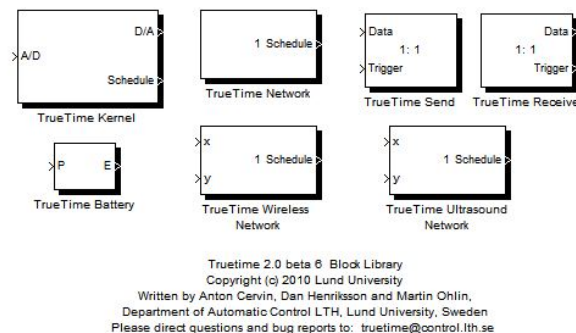

Figure 3: Truetime's Simulink blocks.
3. After executing the last line, check that you get the same window as in Figure 3.
The computer block executes user-defined task, i.e. control algorithms, and it is able to simulate the system using arbitrary scheduling policies. In Figure 3 the computer block (**TrueTime kernel**) is shown.